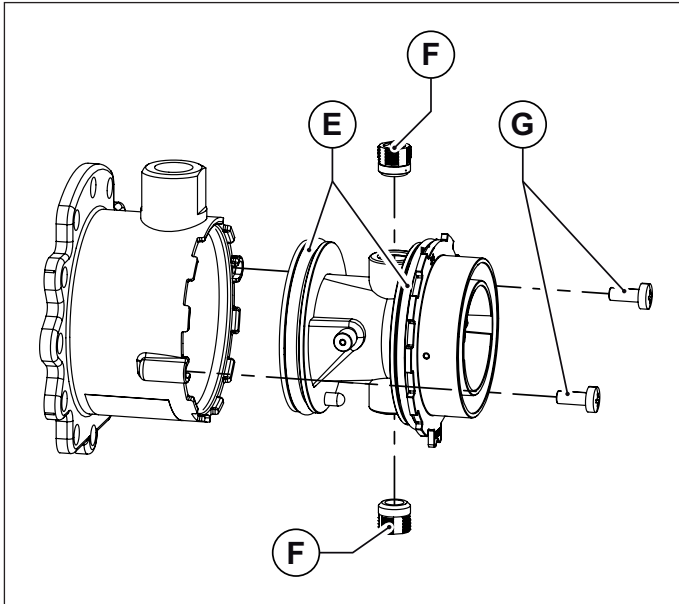
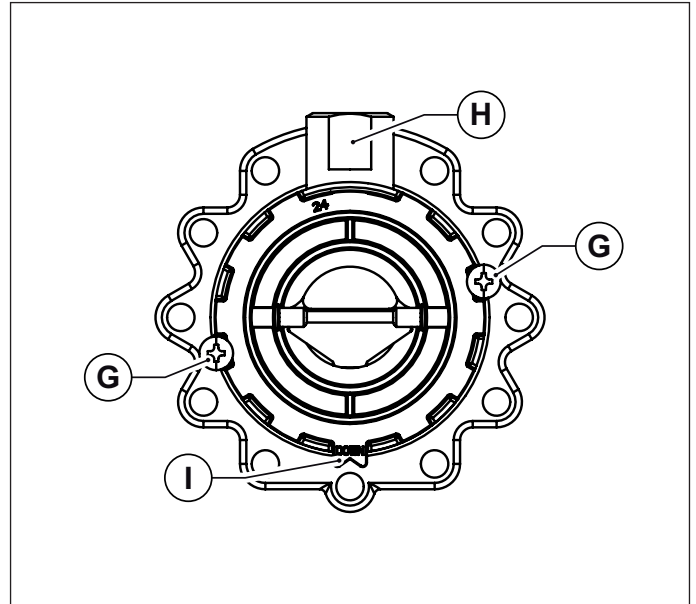

Fig. 30 Mixer plastic body
Fig. 31 Assembling direction
- Loosen the two retaining screws, and slide out mixer plastic body (see Fig. 30 Mixer plastic body).
- Using a 6 mm Allen wrench, loosen the two mixer nozzles (see Fig. 30 Mixer plastic body).
- To refit the plastic body (Venturi), insert it inside mixer and secure it in place with the retaining screws. Take care not to damage the O-rings assembled on plastic body ends (see Fig. 30 Mixer plastic body) and to respect the assembling direction (see Fig. 31 Assembling direction).
- Refit the reassembled mixer onto the fan with the socket head screws, making sure to insert the O-ring between mixer and fan (see Fig. 30 Mixer plastic body).